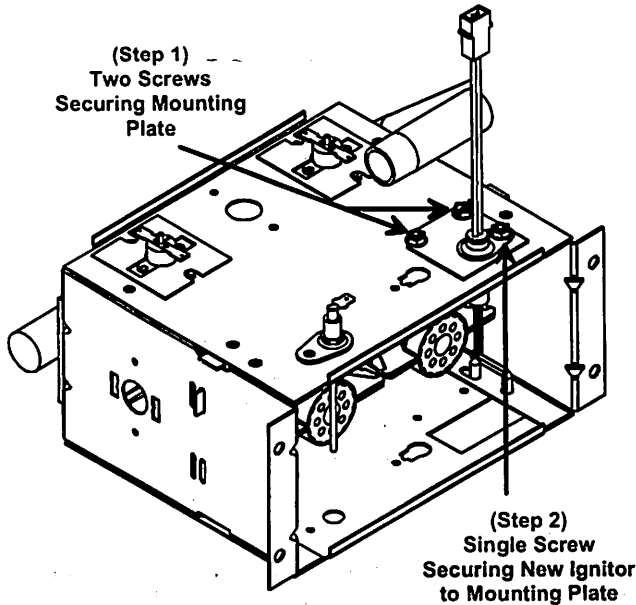

Figure 1
7. Igniters located at the bottom of the burner box require the removal of the four (4) screws holding the gas valve manifold assembly to the burner box. Remove the entire manifold assembly for installation of the igniter. (Note: Some model furnaces may have the igniter located on top of the burner box. The manifold and burner box may require removal if a cooling coil has been installed.)
8. Locate the igniter in the lower right corner of the burner box. Remove the two (2) screws holding the igniter to the burner box and remove the igniter. (See Figure 1 on page 2. The picture shows the bottom view of the burner box rotated upward 180° so you can see the components better.)